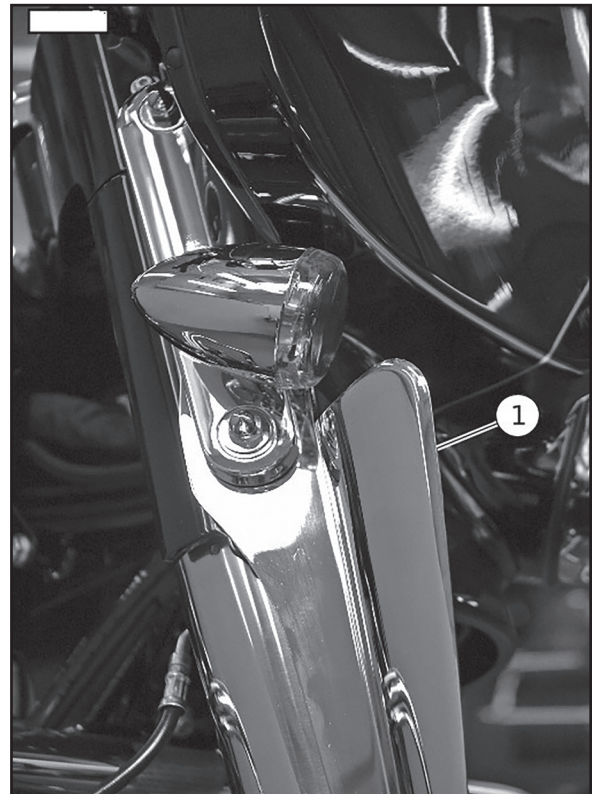

Figure 2. Wind Deflector
1. See Figure 2. On right side of vehicle, locate two mounting screws (2) which secure the fairing and the turn signal bracket to the fork assembly.
1. See Figure 2. On the right side of vehicle, remove the two acorn nuts and turn signal assembly and bracket. Disconnect the wire connector from the signal wire harness. Remove studs (2) that secure fairing to triple clamp. Insert wire connector through hole in wind deflector and place wind deflector against fairing and install studs. Adjust wind deflector as far forward as possible to allow for clearance with engine guard. Tighten studs to 10-15 ft-lbs. Turn handlebar full left, then full right to check for clearance.